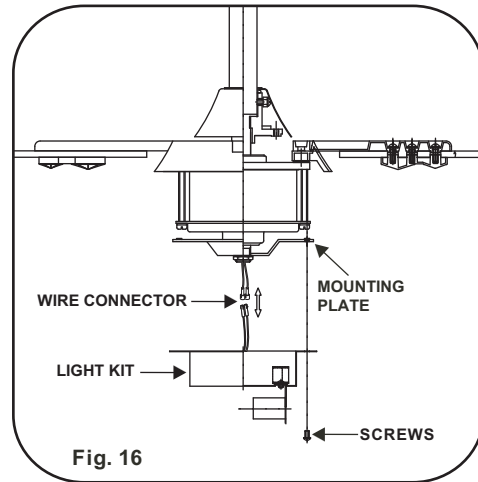

Fig. 16
Step 2. Raise and hold the light kit close to the decorative housing and proceed to do the wire connections. Connect the white wire connectors from the light plate and fan, follow the same procedure with the black wire connectors. (Fig. 16)
Step 3. Install the light kit onto the mounting plate with 3 screws previously removed. Be sure to tighten all screws. (Fig. 16)